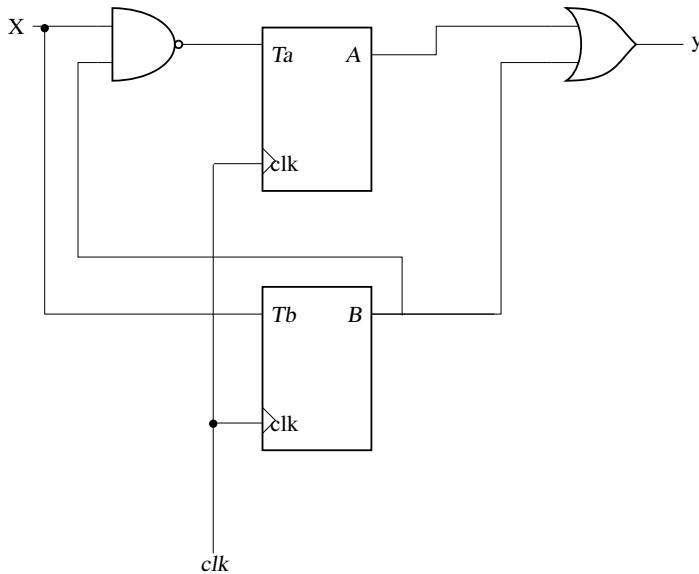

Fig. 5.20
20. Two T-flip flops are interconnected as shown in Fig. 5.20. The present state of the flip flops are:  $A = 1, B = 1$ . The input x is given as 1,0,1 in the next three clock cycles. The decimal equivalent of  $(ABy)_2$  with A being the MSB and y being the LSB, after the 3rd clock cycle is \_\_\_\_\_. (GATE IN2020 – 40)